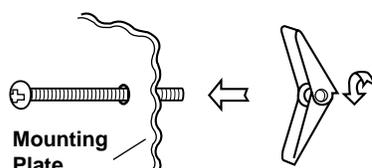

Figure 15
1. Separate 4 Toggle Bolts ②, packed in the INSTALLATION HARDWARE, from the Toggle Nuts.
2. Use Wood Screws ① to attach Mounting Plate to the stud or studs. Use Toggle Bolts to attach Mounting Plate through the holes at A, B, C and D; UNLESS THOSE HOLES ARE LOCATED ON THE STUD. Insert one Toggle Bolt into A, B, C and D where appropriate (these correspond to the holes of the Wall Template) and put the Toggle Nuts onto the Toggle Bolts. Figure 15.